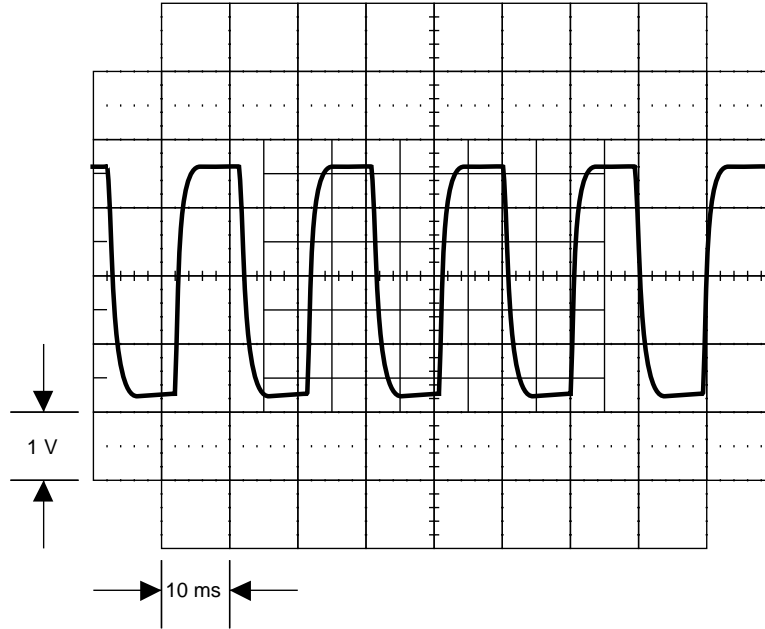

Figure 5-31. Waveform at TP3
2. Measure the voltage at TP4 with a DMM and verify it is between +0.1 and +0.3V. If a failure is detected, check U2C, U6, and associated components. Next, power down the 5700A and connect an oscilloscope, set for 20V/div and 500 us/div, to TP3. At power up of the 5700A the oscilloscope should displays a 1 kHz square wave which ramps up to the level shown in Figure 5-31, remains there for approximately 1 second, and goes to a 0V. If a failure is detected, skip to the Magnitude Control circuit troubleshooting in this section.
5. Check the output from the Magnitude Control circuit. Set the 5700A to +220V dc, operate. Connect an oscilloscope to TP3 and verify it displays a signal similar to the previously shown Figure 5-31, except the amplitude is typically 10V p-p. The measured amplitude may not be 10V p-p, for now just verify that the 1 kHz signal is present. If a failure is detected, skip to the Magnitude Control circuit troubleshooting in this section.
8. Check the output from the Magnitude control circuit. Set the 5700A to 220 mA dc at 1 kHz, operate. Connect an oscilloscope to TP3 and verify it displays a signal similar the previously shown Figure 5-31, except the amplitude is typically 40V p-p. The measured amplitude may not be 40V p-p, for now just verify that the 1 kHz signal is present. If a failure is detected, skip to the Magnitude Control circuit troubleshooting in this section.